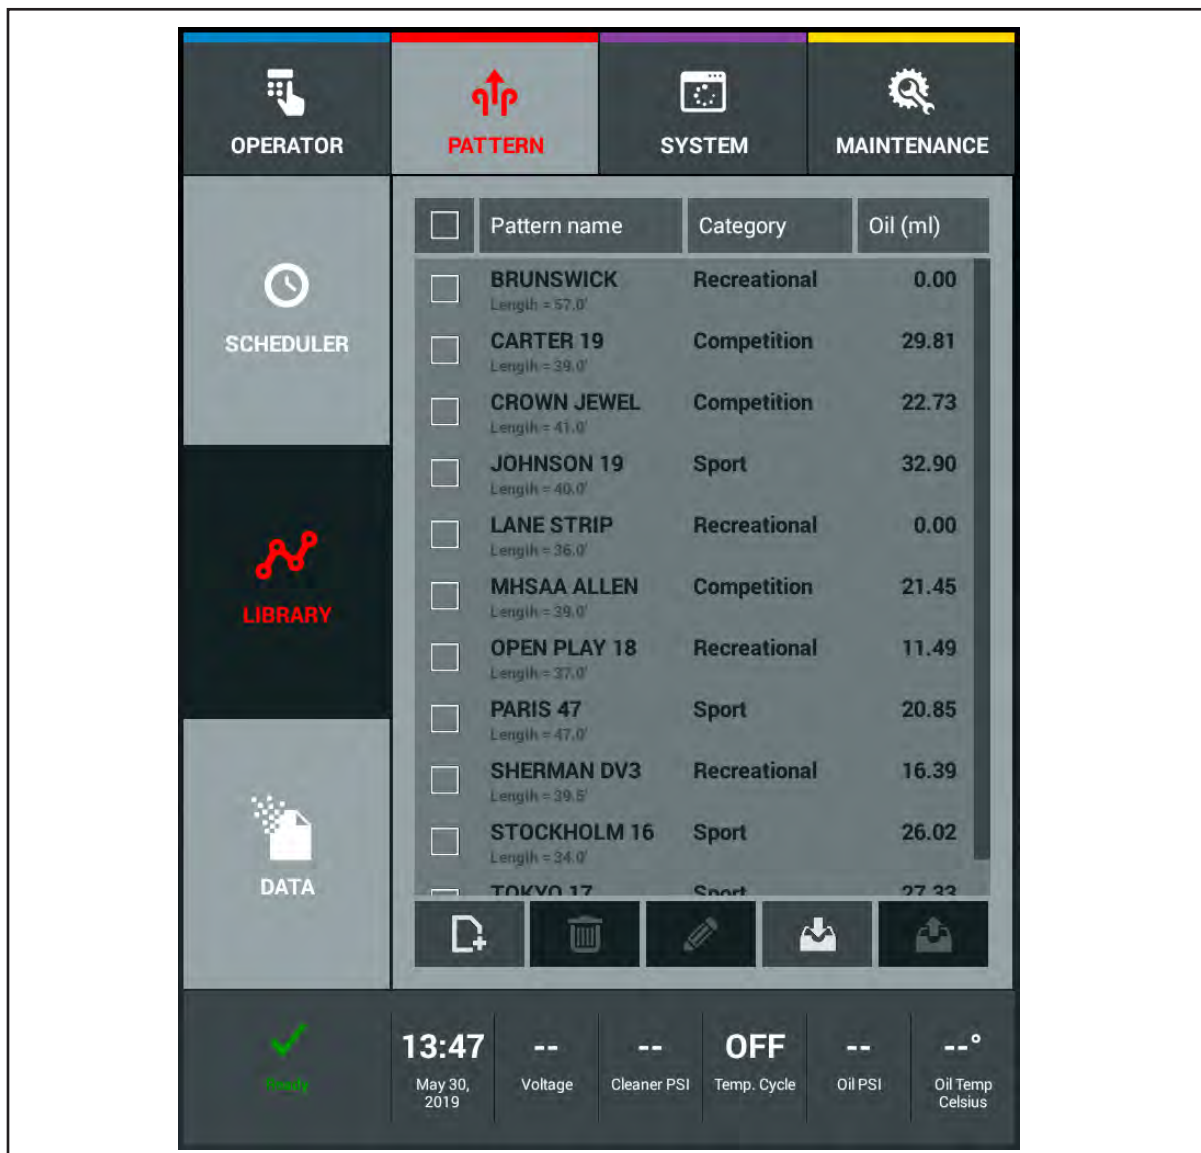

Figure 8-5. Pattern Library
1. Go to your Pattern menu and select “Library” to access your patterns. Refer to *Figure 8-5*.